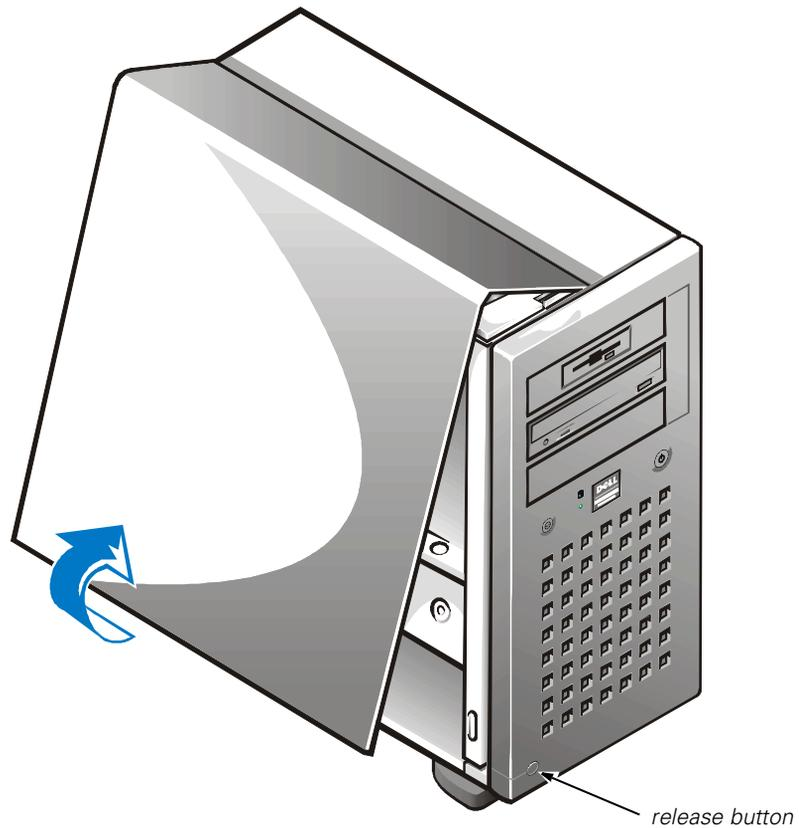

Figure 7-2. Removing the Computer Cover
4. Facing the left side cover, press the release button (located at the bottom-left corner of the front bezel) and lift the bottom of the cover, allowing it to pivot up toward you (see Figure 7-2).